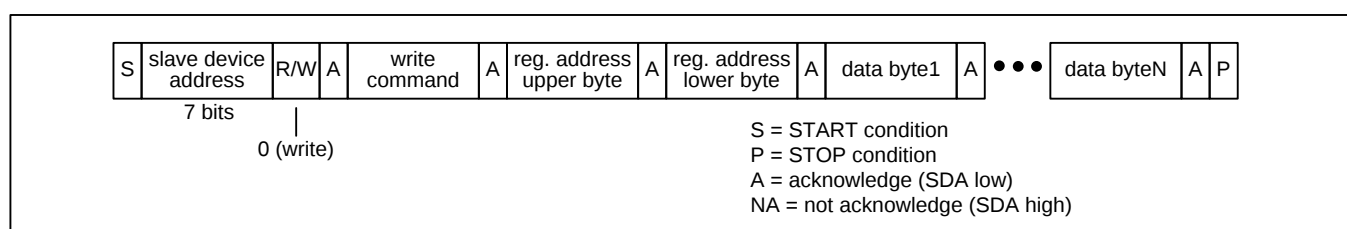

Figure 8 – I²C Register Write Transaction Functional Timing
Register Write Transactions. The device registers are accessible when EESSEL=0. The bus master does an I²C write to the device. The first three bytes of this transaction are the SPI Write command (see Table 3), the upper byte of the register address, and the lower byte of the register address. Subsequent bytes are data bytes to be written. After each data byte is received, the device writes the byte to the write address and then increments the write address. The bus master terminates the write with a STOP condition (P). See Figure 8.